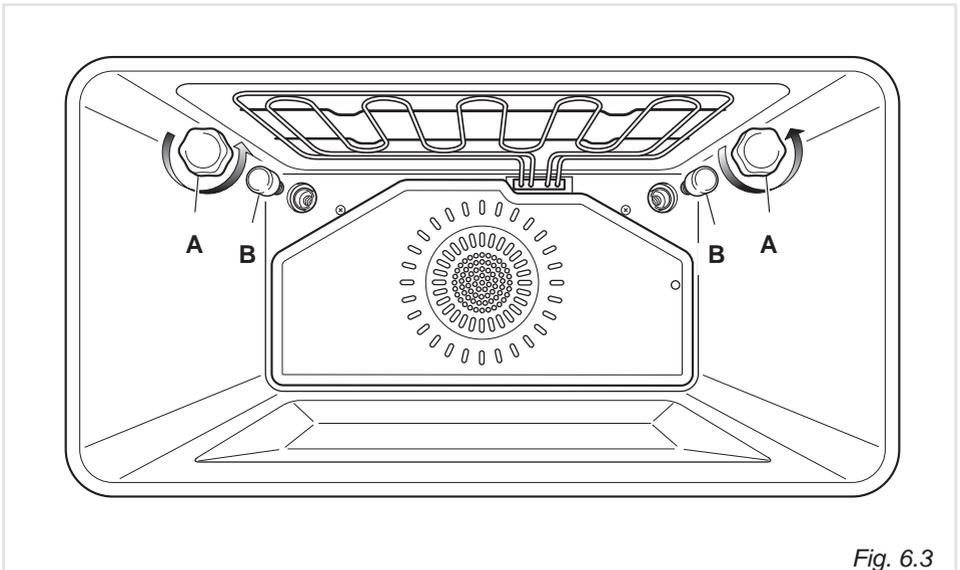

Fig. 6.3
- Remove the protective cover "A" (fig. 6.3).